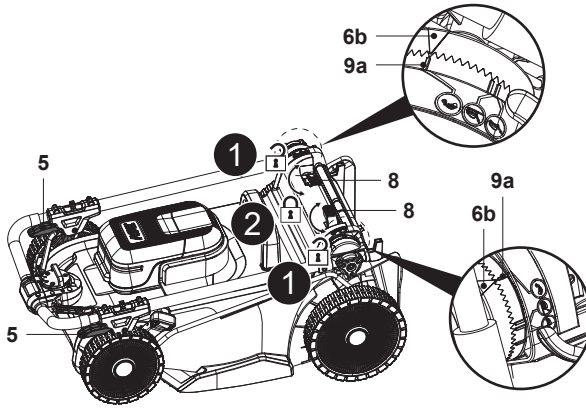

Fig. 26
9. To save space, you can also open the two locking levers (5) and insert the upper handle all the way to stop, secure the connections (5, 8) and ensure that the indicating triangle (6b) is aligned with parking indicator (9a) to avoid scattering (Fig. 26).